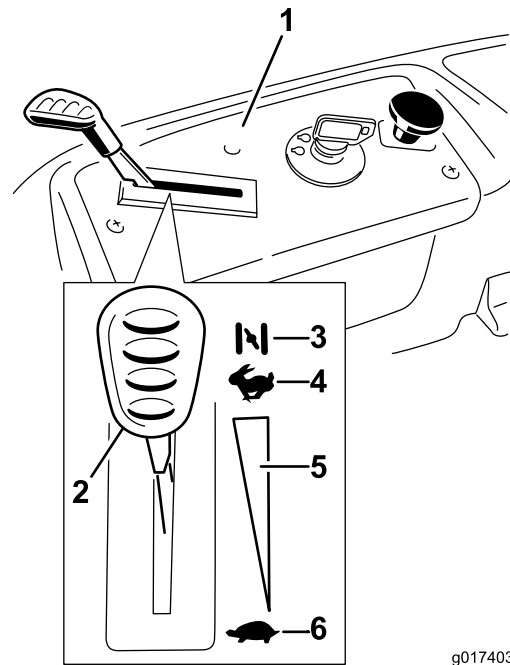

Figure 13
3. Move the throttle lever to Choke before starting a cold engine (Figure 13).
5. After the engine starts, move the throttle lever to Fast (Figure 13).